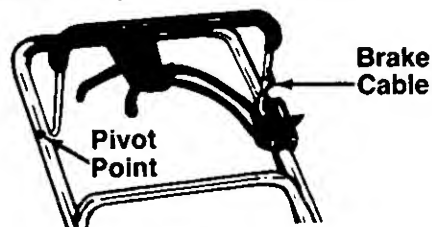

FIGURE 27.
**Blade Control**—Lubricate the pivot points on the blade control handle and the brake cable at least once a season with light oil. See figure 27. The blade control must operate freely in both directions.